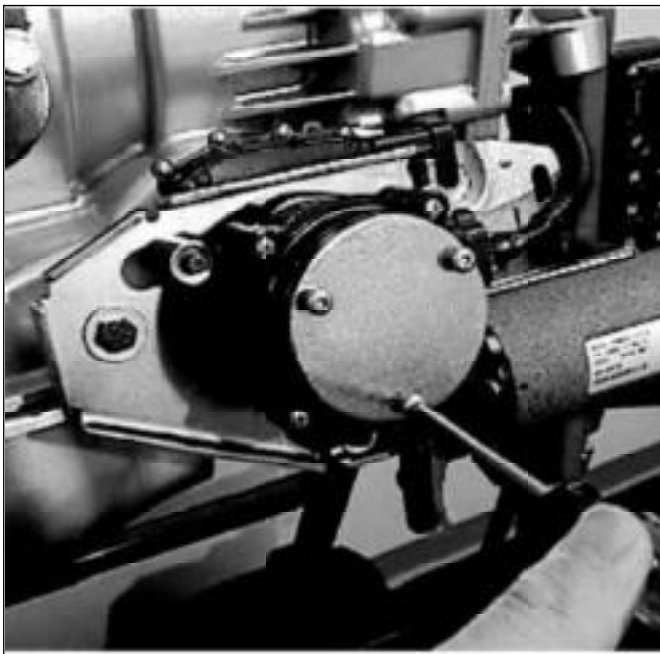

Fig. 7-13 . Install cover screws.
16. Attach the Cover Plate with the 3 Cover Plate Screws. Tighten the 3 screws to 5 lbs.-ft. Figure 7-13.
1. Remove the 3 screws (shown previously in figure 7-13) that hold the cover plate on.